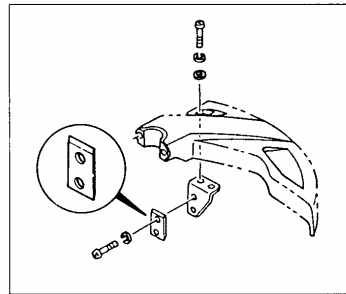
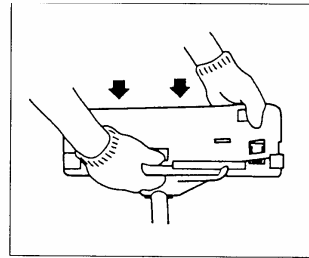

Fig. 1-8B
Fig. 1-9
When using a trimmer head (2) with a two piece type blade guard, attach the guard extension to the blade guard. (Fig. 1-9) Then locate the guard above the gear case. (Fig. 1-8B)